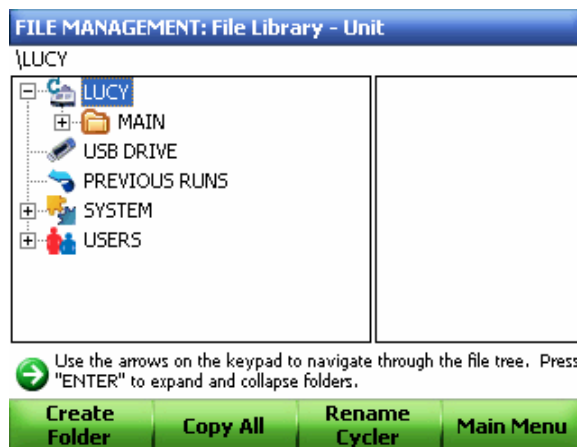

Figure 81. Select the LUCY thermal cyclers.
2. Select the cyclers or USB key from which files are to be copied (Figure 81).